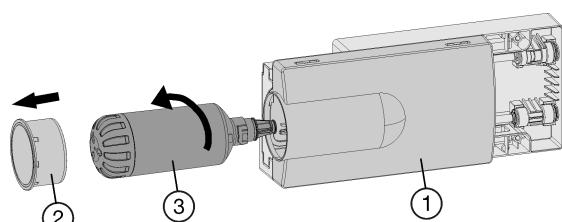

Fig. 49
- Pull out the tray Fig. 49 (1), if necessary.
- Remove the filter cover Fig. 49 (2).
- Turn the water filter Fig. 49 (3) approximately 100° counterclockwise and pull it out.